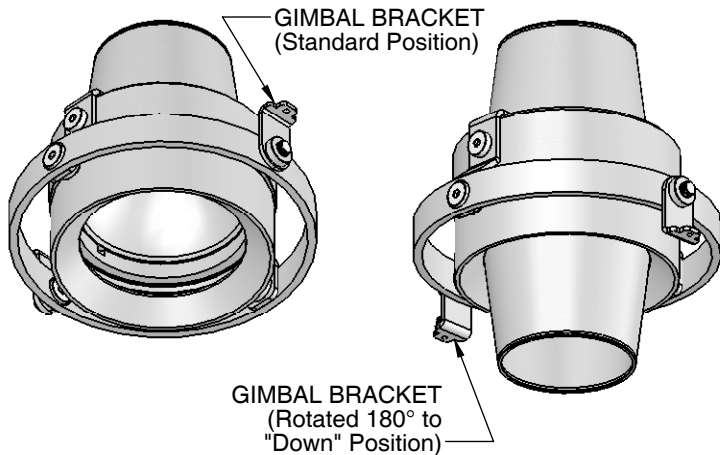

Figure 9
17. Once removed, flip the two (2) GIMBAL BRACKETs around (180°) and tighten the joint if necessary. See Fig. 9. If necessary, please see Step 21 for gimbal tightening instructions.